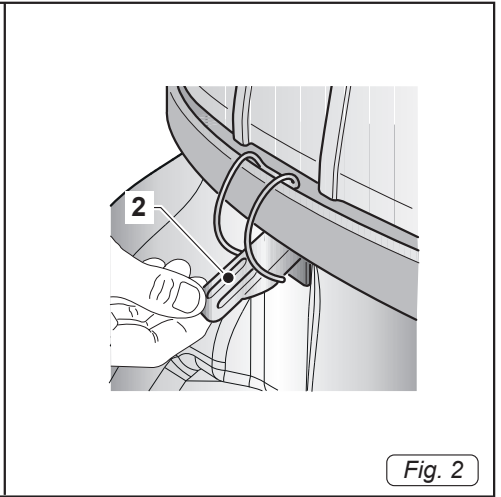
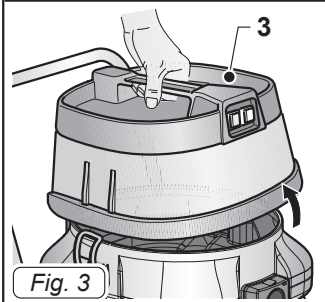

Fig. 2
Fig. 3
- Release the levers (2 Fig. 2) and remove the cover head (3 Fig. 3) complete with the motor unit.
- Place the cover head back on and lock it using the levers (2 Fig. 2).
- Release the levers (2 Fig. 2) and remove the cover (3 Fig. 3) including the motor unit.